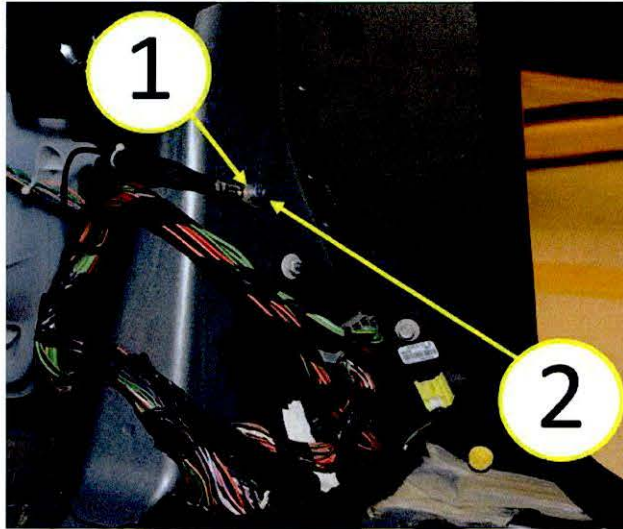

Fig. 8 Ground Terminal Installation
9. Install the power top control module ground wire (1) and grounding nut (2) to the body grounding stud (Fig. 8). Tighten the nut to 9 N·m (79.7 in. lbs.).